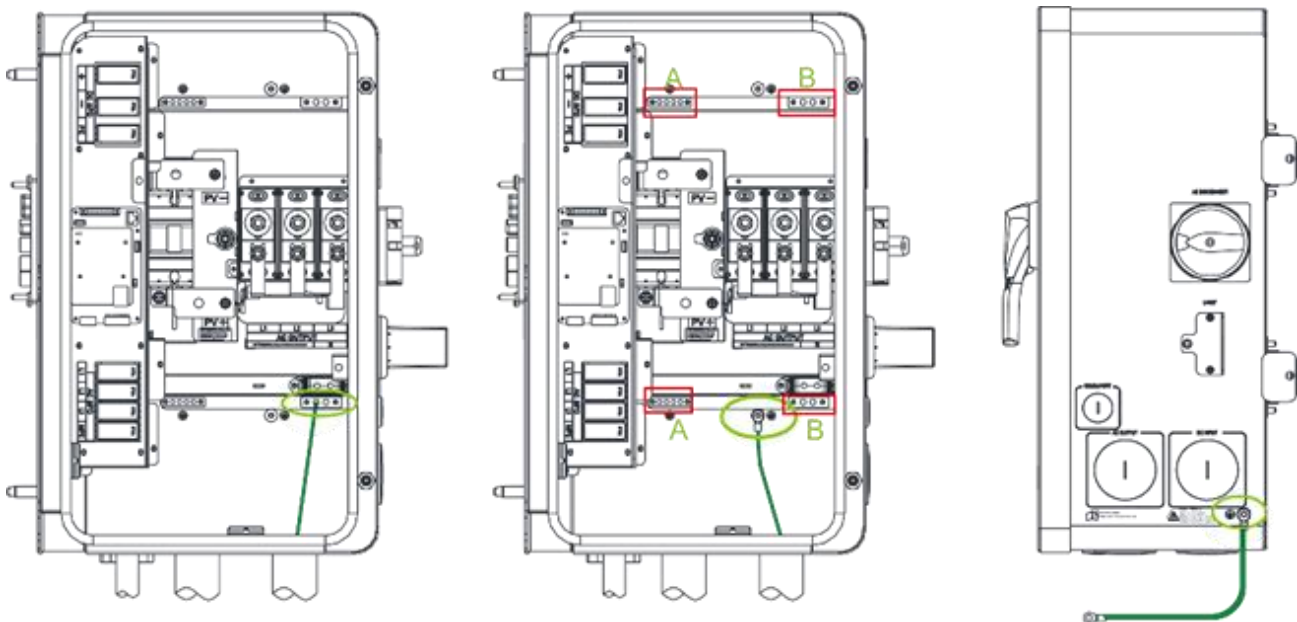

Figure 3-31 Grounding Connection Points (Centralized Wire Box V2)
DC input (+ / -) Centralized Wire Box V2	Busbar, M10 bolts: 500 kcmil CU/AL max. (1 termination per pole), 300 kcmil CU/AL max. (2 terminations per pole). Lugs not supplied. Cu/Al conductor size determined by: NEC calculations, site voltage drop requirements, and DC terminal dimensions. See Figure 3-31 & 3-32 for centralized wire box V2 dimensions (90°C rated). Allows for single or parallel one-hole lugs on top and bottom; 0.43 in (11 mm) through holes, use lugs with a 3/8 in (9.53 mm) or 1/2 in (12.7 mm) hole.
1. Connect the ground cables to the grounding points shown in Figures 3-31, 3-32, or 3-33 and bond the inverter to the local grounding point (drive ground rod or equivalent).